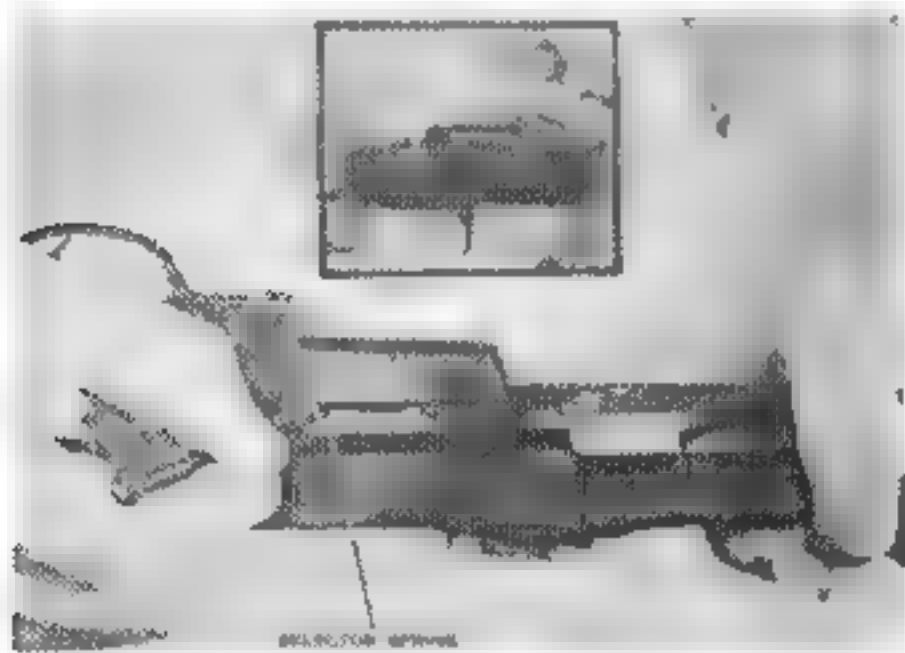

Figure 8. Removing the selector spring.
g. Now rotate the selector to the rear (semi-automatic setting). Insert the point of the operating slide spring guide into the loop of the selector spring (Fig. 8). Push the loop end downward opposite its dismount notch and remove the selector spring. Move the selector forward to the automatic setting. Slide the selector to the rear, disengaging the slot of the selector from the straddle slots on the trigger housing and selector pin.